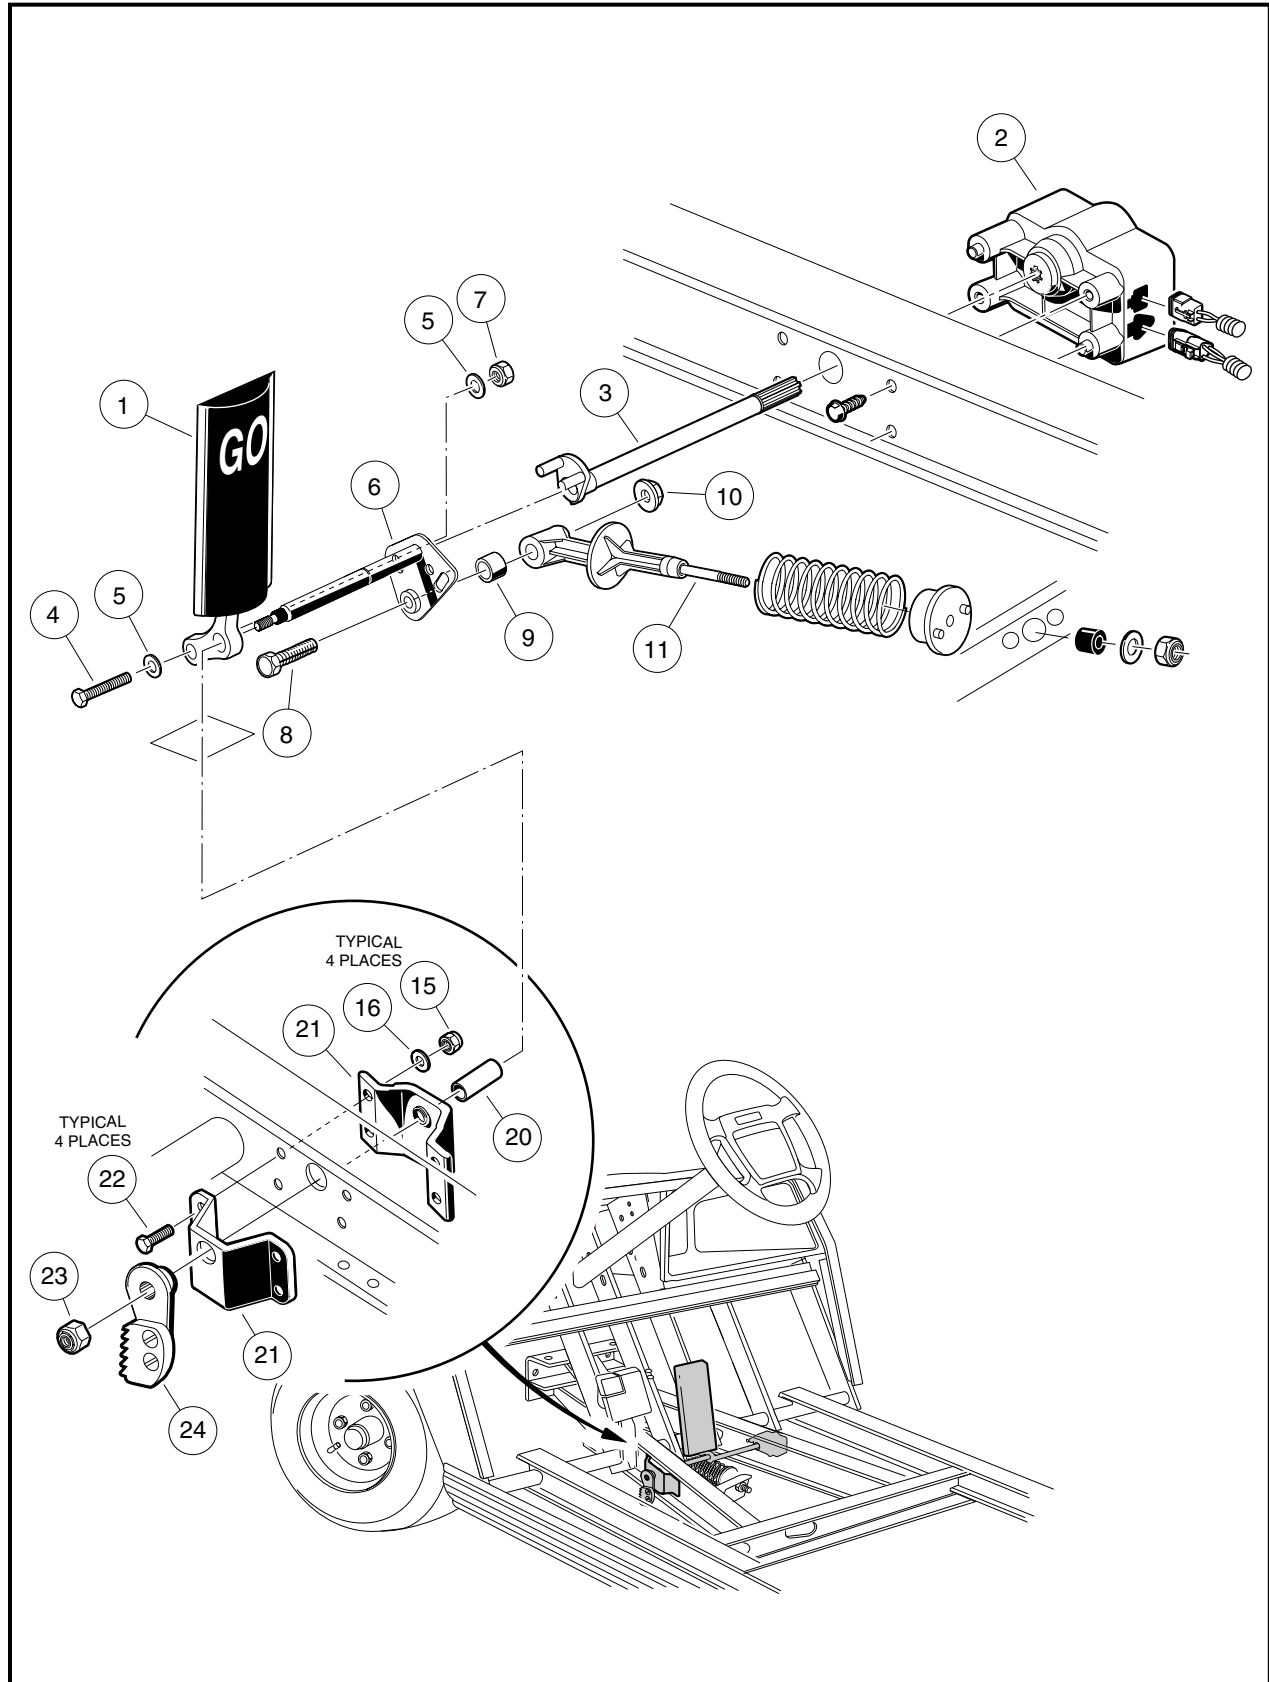

Figure 5-8 Accelerator Pedal – Electric Vehicle
3. Remove the MCOR (2) and drive bar (3) as instructed (**Figure 5-8, Page 5-10**). See **MCOR Removal, Section 12, in the appropriate maintenance and service supplement.**
4. Using a 9/16-inch socket and 9/16-inch wrench, remove the nut (7), two washers (5), and bolt (4) securing the accelerator pedal (1) to the pivot rod (6) (**Figure 5-8, Page 5-10**).
5. Remove the nut (10) and bolt (8) from the accelerator pivot rod assembly (6).
6. Slide the spring retainer (11) off of the accelerator pivot rod.
7. Inspect the pivot support bearing (9) for wear and replace if necessary.
8. Use a marker to mark the position of the park brake ratchet (24) on the accelerator pivot rod (6). See following **NOTE.**
9. Remove the lock nut (23) from the accelerator pivot rod.
10. Depress the brake pedal slightly and slide the park brake ratchet (24) toward the end of the accelerator pivot rod. Rotate the ratchet and remove it from the pivot rod.
11. Remove the pivot rod (6) and spacer (20) from the accelerator pivot rod supports (21) (**Figure 5-8, Page 5-10**).
12. Inspect the accelerator pivot rod supports (21) for wear and damage and replace as necessary. If the pivot rod supports do not require replacement, loosen, but do not remove, the four bolts (22) and lock nuts (15) to make installation of the pivot rod easier.
13. Remove the accelerator pedal (1) from the vehicle (**Figure 5-8, Page 5-10**).
1. If the accelerator pivot rod supports were replaced, position the supports (21) on the vehicle frame and install the four bolts (22), flat washers (16), and lock nuts (15) (**Figure 5-8, Page 5-10**). finger-tighten nuts at this time.
2. Insert the lower end of the accelerator pedal (1) through the floorboard and install the accelerator pivot rod (6) through the uppermost hole in the pedal.
3. Install plastic spacer (20) on pivot rod (6).
4. Insert the pivot rod through the pivot rod supports (21) on the vehicle frame.
5. Tighten the four bolts (22) attaching the pivot rod supports to the frame to 75 in-lb (8.5 N·m) (**Figure 5-8, Page 5-10**).
6. Insert the bolt (4), two washers (5), and a new lock nut (7) through the lower hole in the pedal and through the pivot rod. Finger-tighten lock nut at this time.
7. Install the bolt (8) through the pivot rod (6) and spring retainer (11). Secure these parts with the nut (10) (**Figure 5-8, Page 5-10**). Tighten the nut to 50 in-lb (5.5 N·m).
11. Install lock nut (23) on pivot rod (**Figure 5-8, Page 5-10**). Tighten to 18 ft-lb (24.5 N·m).
12. Install the MCOR (2) and drive bar (3) as instructed. **See MCOR Removal, Section 12, in the Power-Drive Maintenance and Service Supplement.**